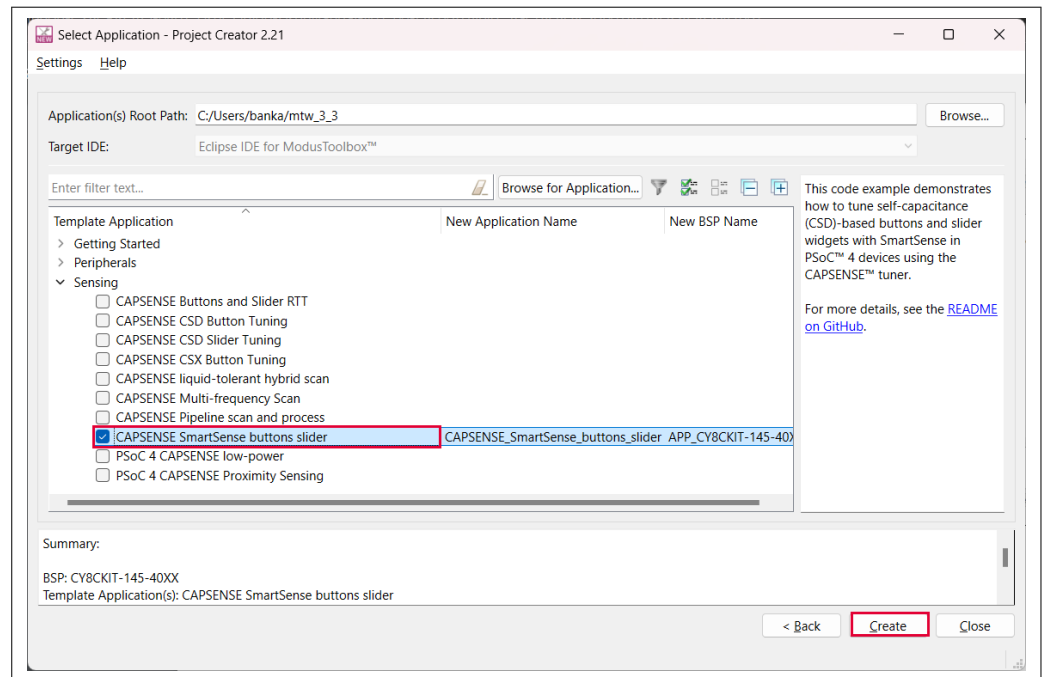

Figure 12 Creating a new application: Select Application
- c. Select the required application and click **Create**, as shown in Figure 12. The right pane shows the code example description and the link to view the README file on GitHub